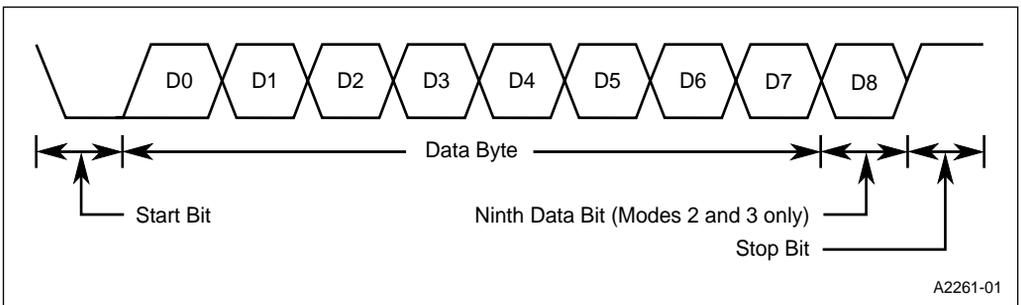

Figure 11-4. Data Frame (Modes 1, 2, and 3)
- **Mode 1.** Mode 1 is a full-duplex, asynchronous mode. The data frame (Figure 11-4) consists of 10 bits: one start bit, eight data bits, and one stop bit. Serial data is transmitted on the TXD pin and received on the RXD pin. When a message is received, the stop bit is read in the RB8 bit in the SCON register. The baud rate is generated by overflow of timer 1 or timer 2 (see “Baud Rates” on page 11-10).
- **Modes 2 and 3.** Modes 2 and 3 are full-duplex, asynchronous modes. The data frame (Figure 11-4) consists of 11 bits: one start bit, eight data bits (transmitted and received LSB first), one programmable ninth data bit, and one stop bit. Serial data is transmitted on the TXD pin and received on the RXD pin. On receive, the ninth bit is read from the RB8 bit in the SCON register. On transmit, the ninth data bit is written to the TB8 bit in the SCON register. Alternatively, you can use the ninth bit as a command/data flag.